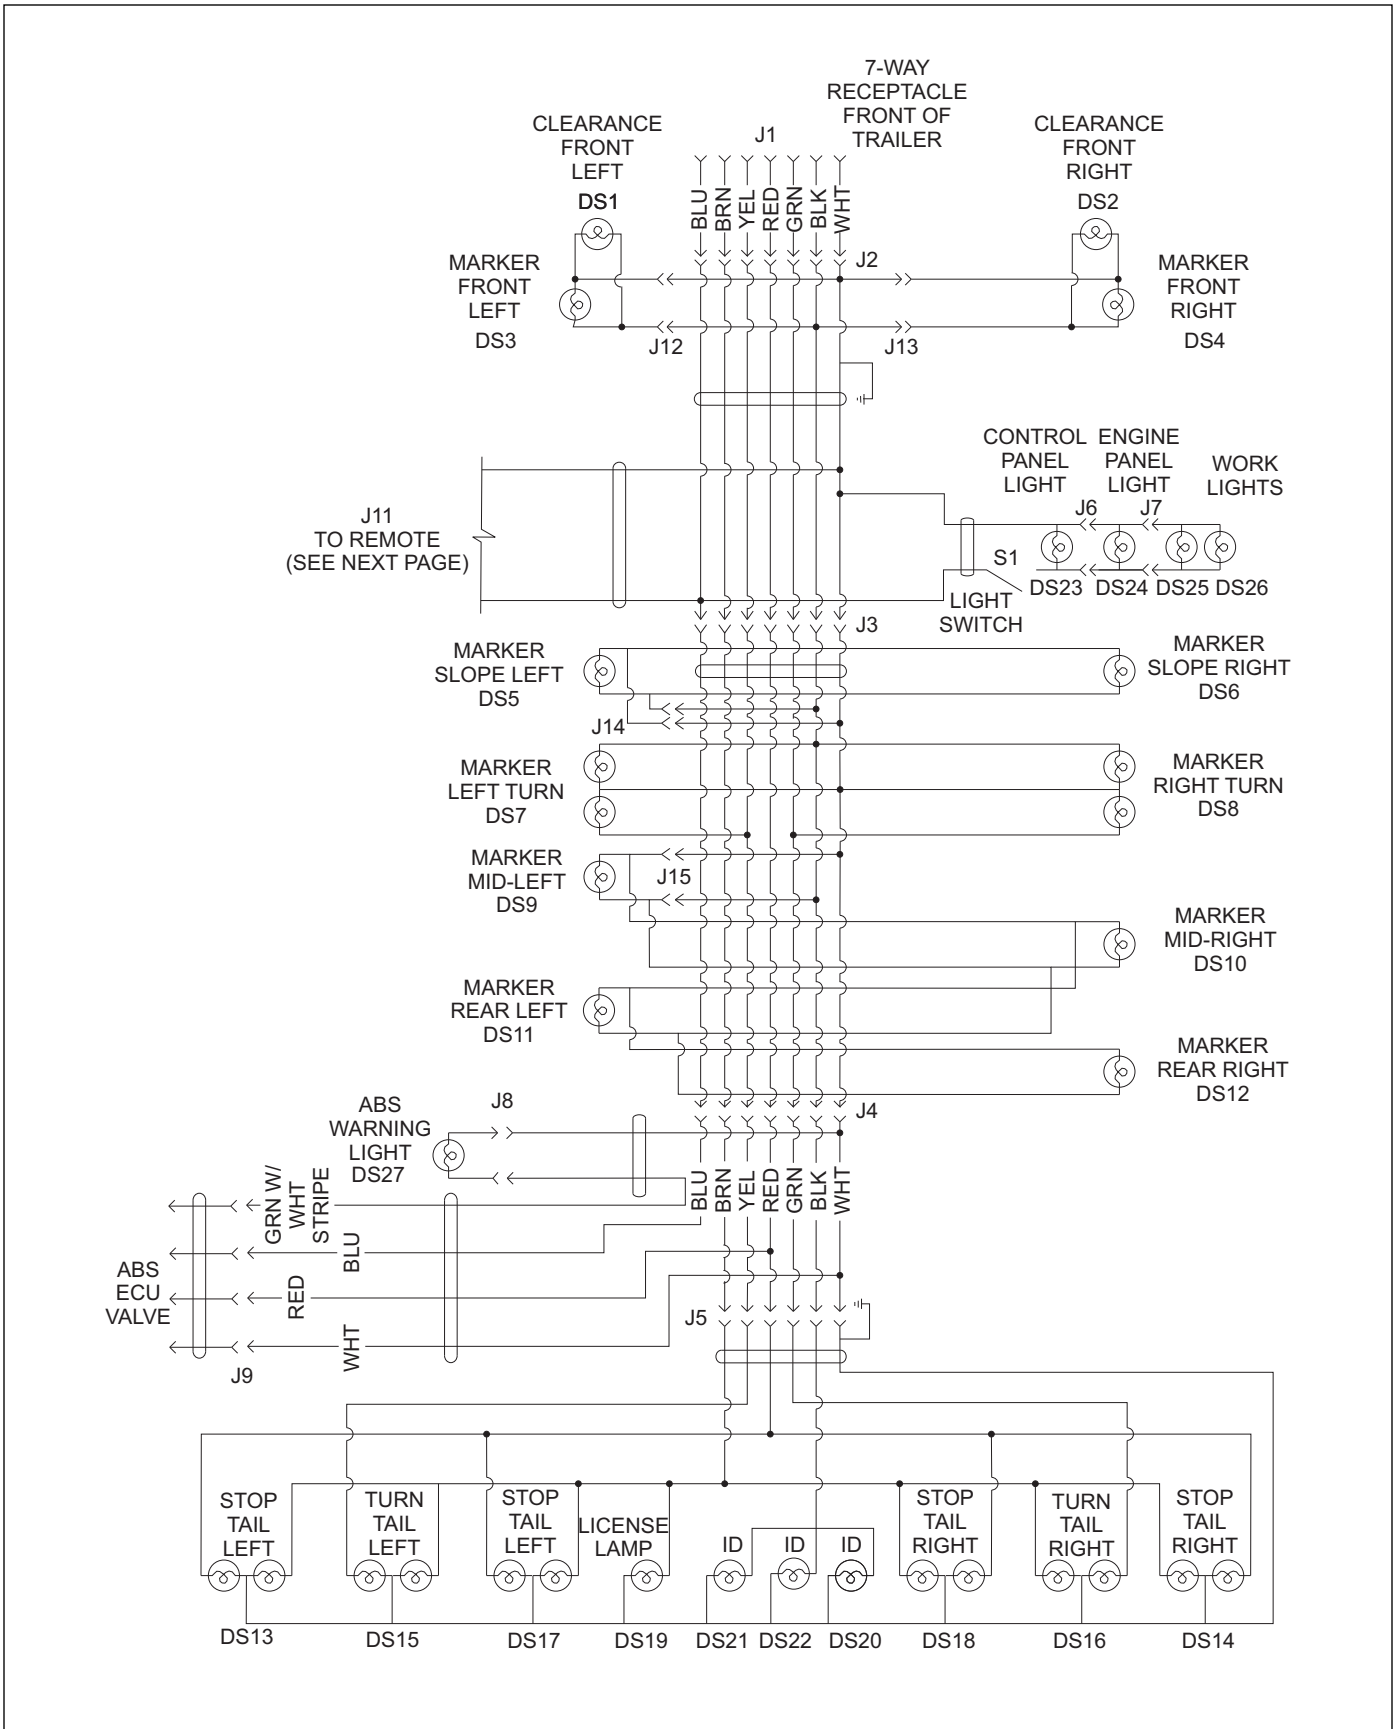

Figure 4-4: 900E Series Wiring Diagram
1. Maintenance of the electrical system consists of inspection and minor servicing. Any wire, connection or electrical component showing signs of corrosion, wear, breakage or unraveling must be repaired or replaced. (*See Figures 4-4 and 4-5* for electrical wiring diagrams and *Table 4-1* for wiring parts list.)